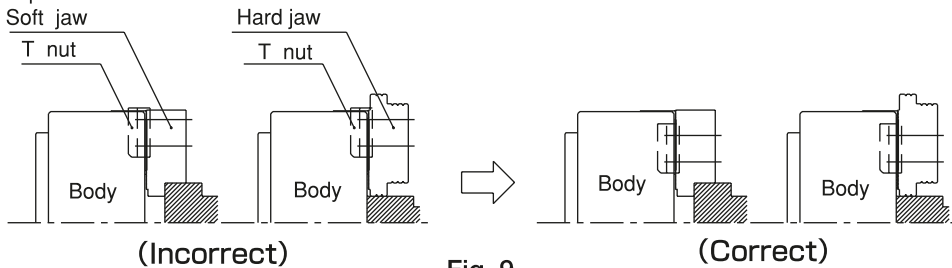

Fig. 9
- Use the T nut so that it does not come out from the master jaw. (Refer to Fig.9)